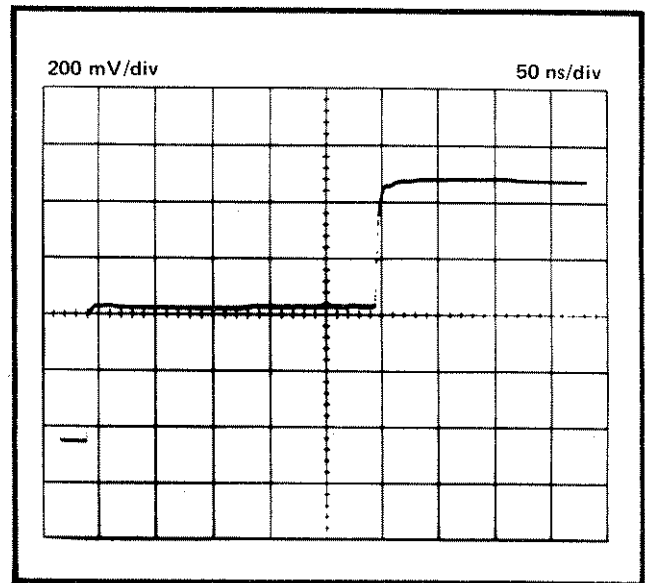

Fig. 2-5. Display showing unterminated coaxial line (about 100 feet).
17. Adjust the Type S-54 LEAD TIME control to position the desired time window on the CRT as shown in Fig. 2-5.